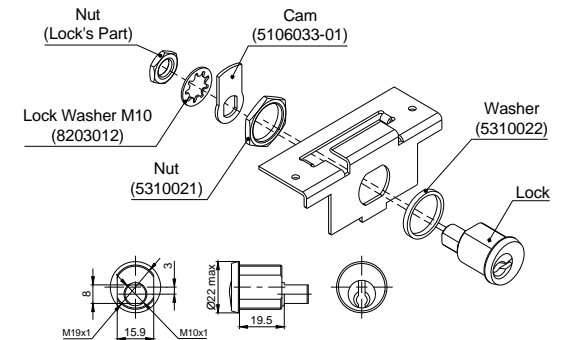

Fig. 5
- Step #4. Install the lock into the lock bracket (Fig. 5)